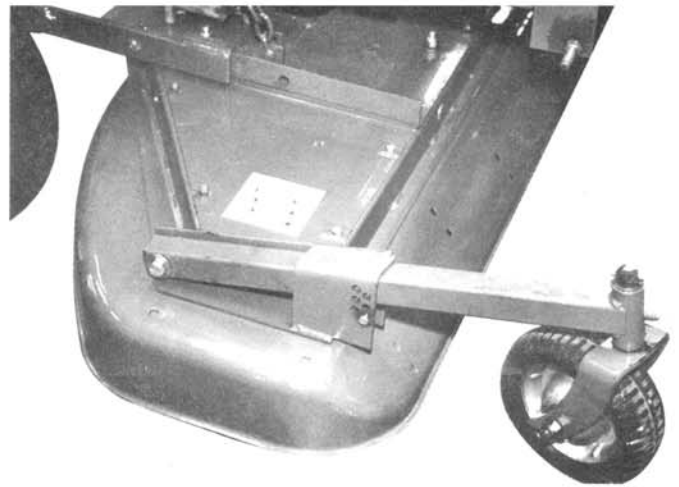

Fig. 8
2. Put the clevis pins in the adjustment holes for the caster wheel arms that corresponds to the adjustment of the 72 inch mower as indicated by the numbered decals. See fig. 8.